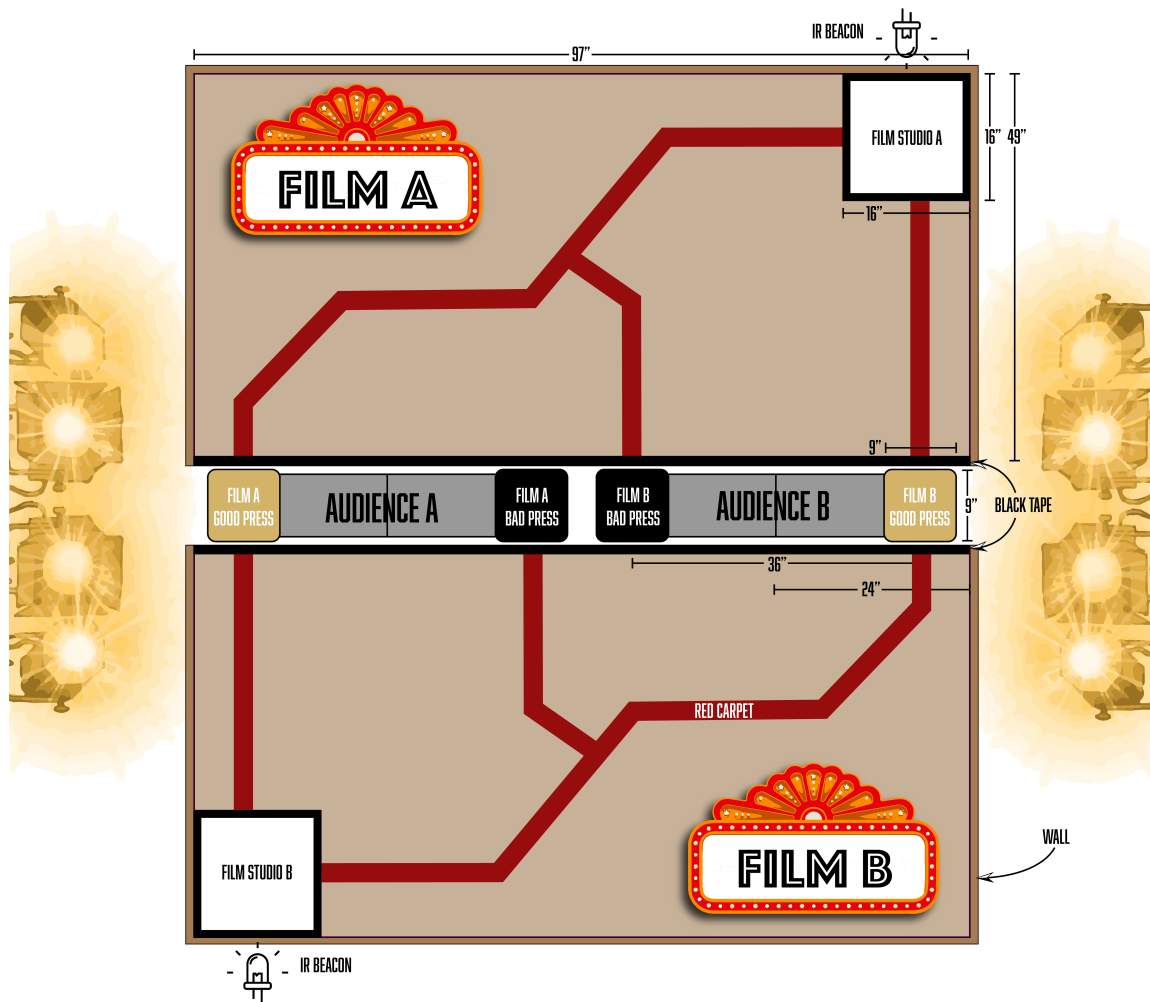

Figure 1: Top view of the field.
- ☐ The field, seen in Figure 1, is constructed from wood and split into 2 sides: an 8 foot by 4 foot area for FILM A and an 8 by 4 foot area for FILM B. The two halves will be divided along the 8 foot side by two scales representing Audience A and Audience B.